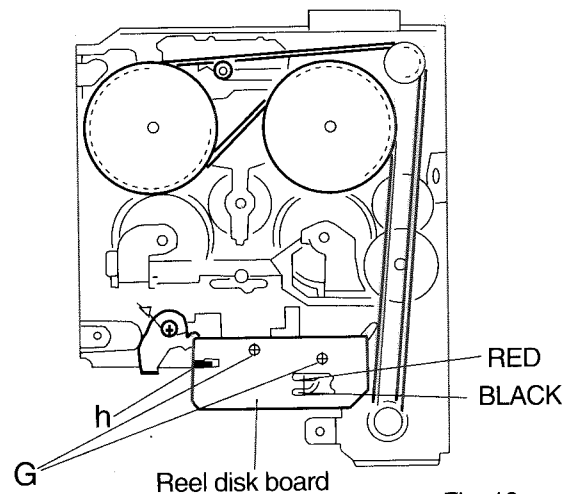

Fig. 10
■ **Removing the Reel Disk Board (See Fig. 10)**